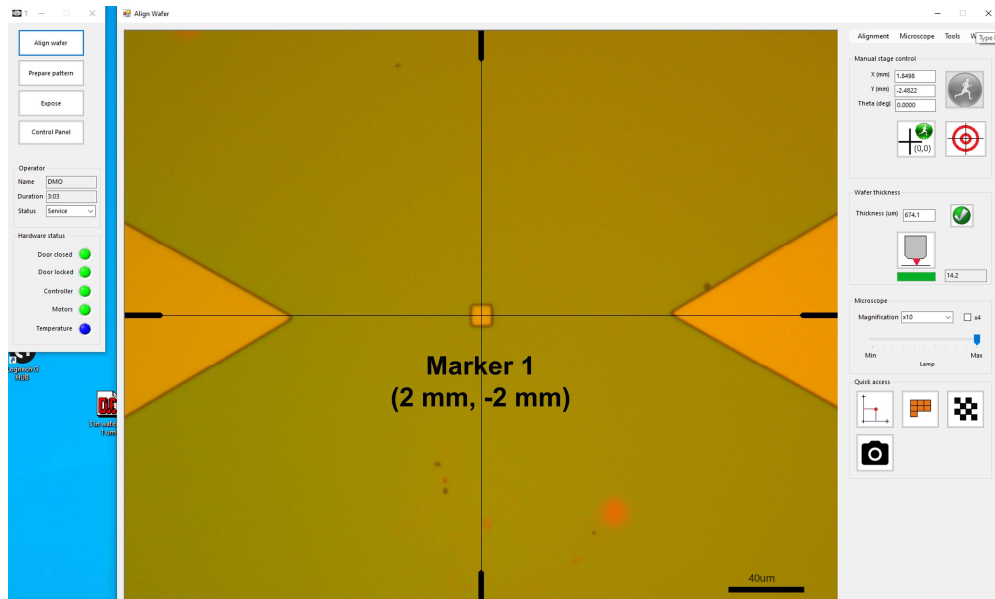

Figure 2 Camera centre (cross centre) overlaid with the centre of the Marker 1.
- Locate the first alignment marker (here Marker 1). Move the centre of the real-time microscope view to the centre of the Marker 1 (Figure 2).